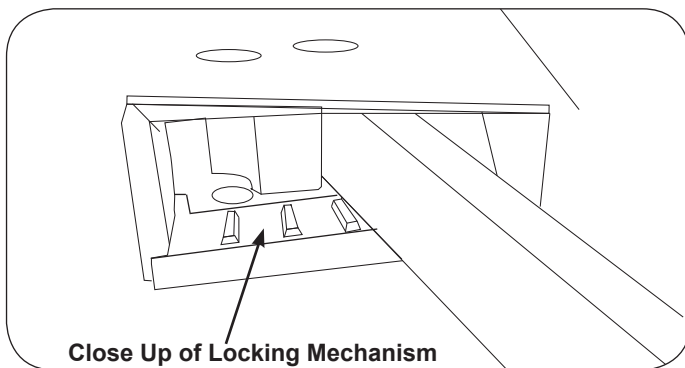

Figure 25. Stirrup Locking Mechanism
2. When the desired position is achieved, lower the stirrup to engage the lateral locking mechanism (Figure 25).